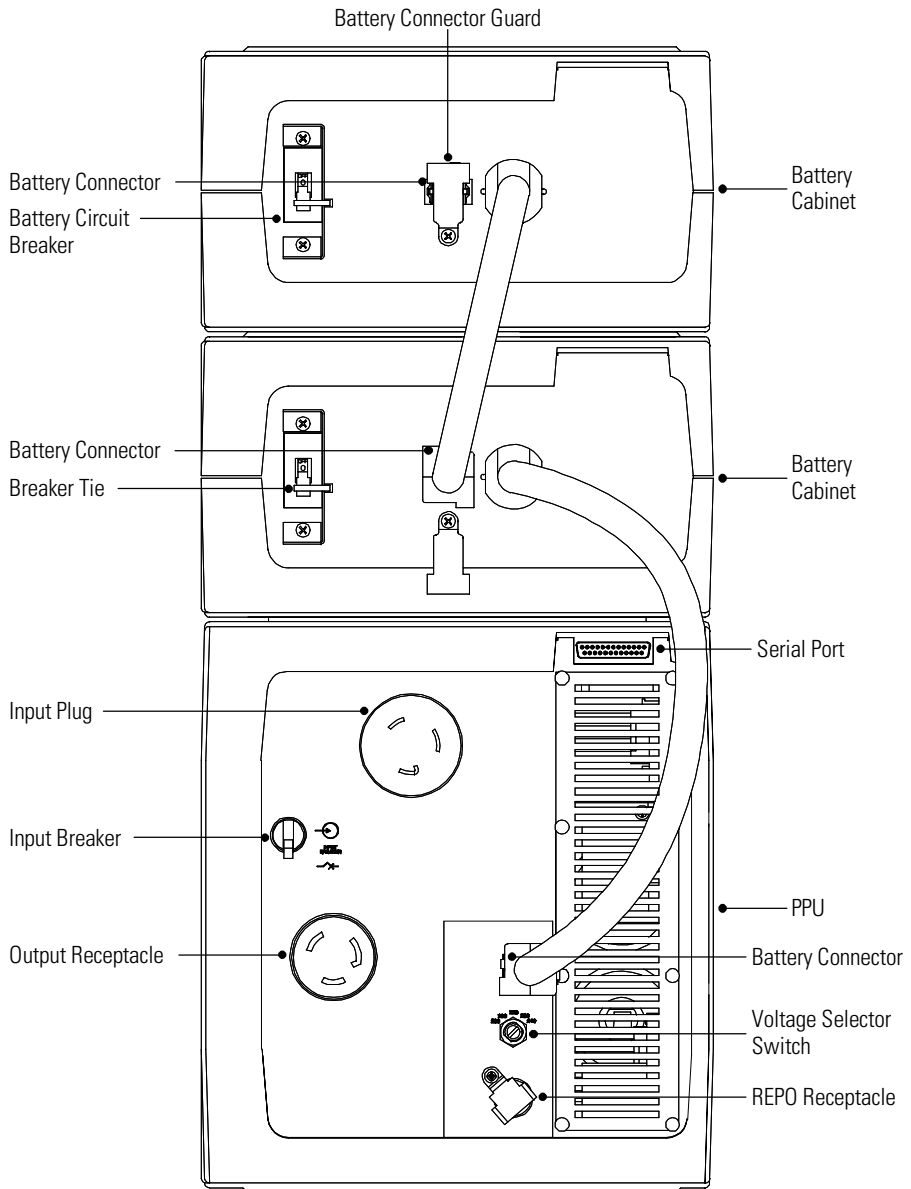

Figure 4. UPS with Plug/Receptacle PPU Rear Panel
Whenever the units are not energized, verify the circuit breaker on all battery cabinets is returned to the OFF (O) position (see Figure 4 on page 26).
2. Verify the input breaker on the PPU rear panel is in the OFF (O) position (see Figure 4).
3. Verify the circuit breaker on all battery cabinets is in the OFF (O) position.
2. Pivot the REPO receptacle guard out of the way, plug the REPO plug/receptacle PPU connector into the REPO receptacle on the PPU rear panel and twist the connector in place (see Figure 4 on page 26).
1. Verify the input breaker on the PPU rear panel is in the OFF (O) position (see Figure 4 on page 26).
7. Switch the circuit breaker to the ON (|) position (see Figure 4 on page 26) on each battery cabinet connected to the PPU.
8. Switch the PPU input breaker to the ON (|) position (see Figure 4 on page 26).